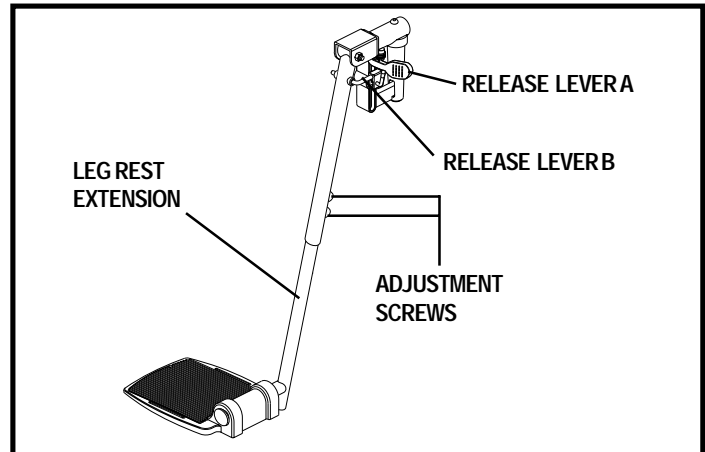

Figure 24. Elevating Leg Rests
1. Push in release lever A. See figure 24.
1. Remove the two adjustment screws from the side of each leg rest extension. See figure 24.
1. Push down release lever B. See figure 24.